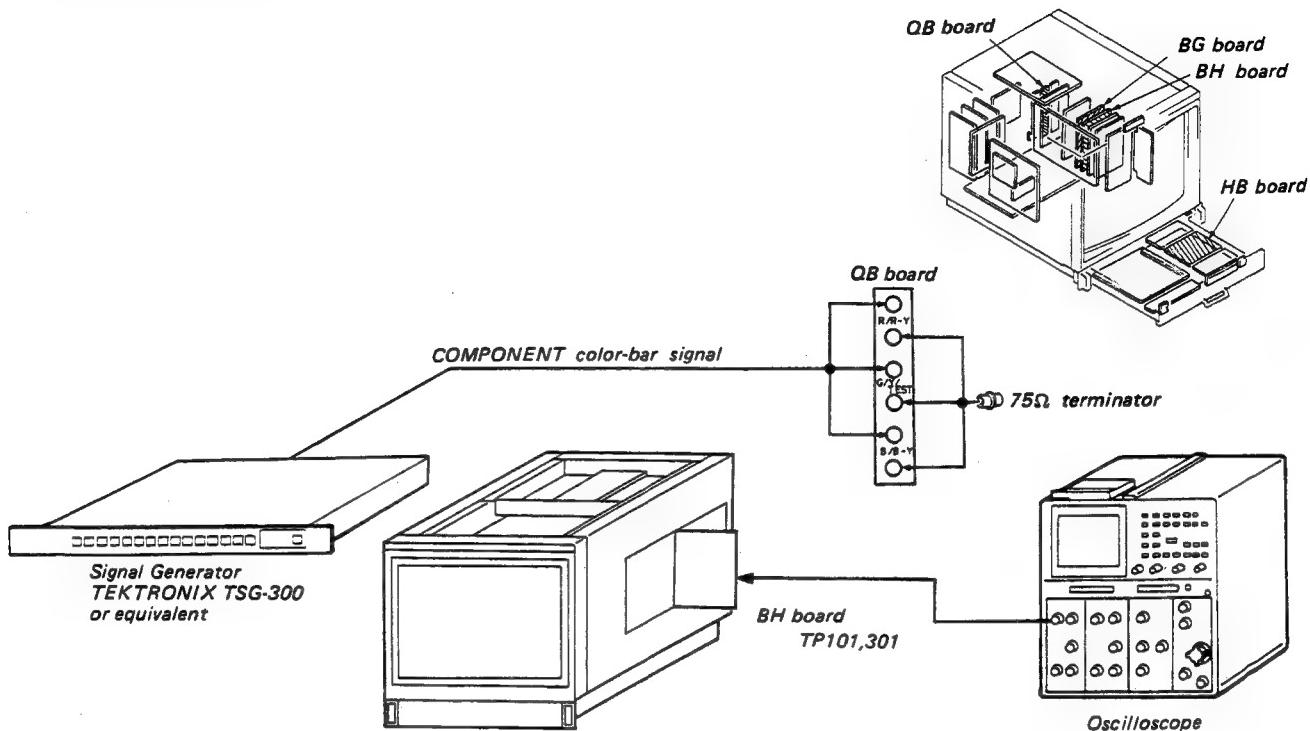

Fig. 6-1
1. Complete the connections as shown in Fig. 6-1.
- INPUT selector B (FRONT PANEL (R))